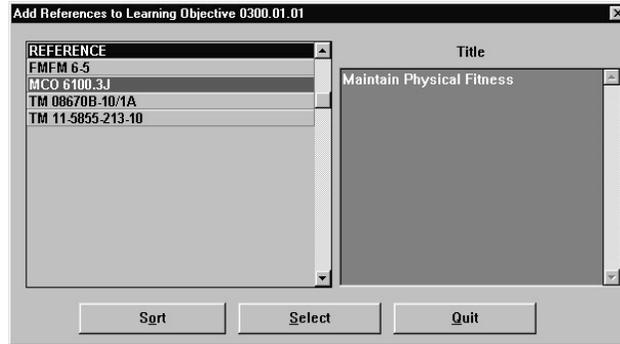

Figure 6-59. Add References to Learning Objective
- From the References for LO selection list box (Figure 6-58), click on **Add**. The Add References to Learning Objective selection list box (Figure 6-59) opens and displays a list of all references in the Reference Table for this course that are not already assigned to this learning objective. Note that the title bar identifies the learning objective with which you are working.